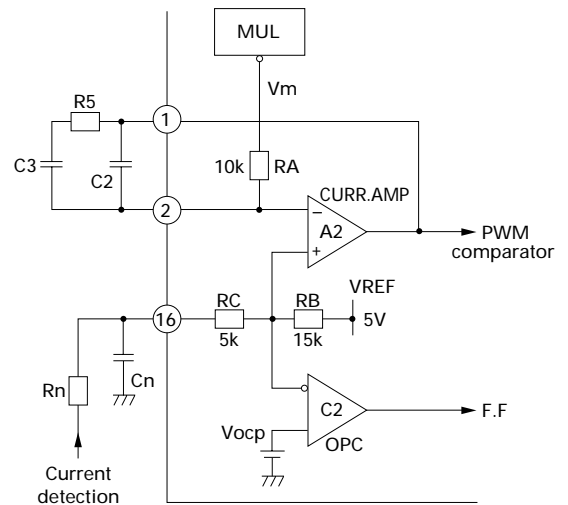
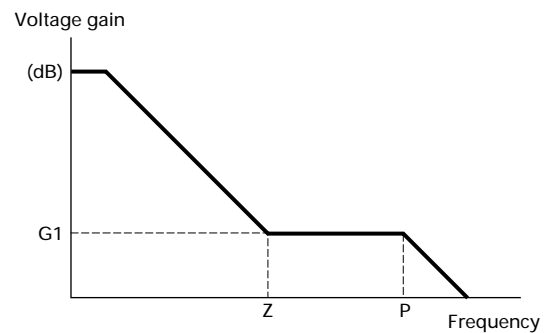

Fig. 3 Current error amplifier and overcurrent limiting circuit
Fig. 4 Voltage gain-frequency
The current error amplifier forms a current loop to change the input circuit current into sinusoidal waves. As Fig. 3 shows, the multiplier output is connected to pin 2 (IIN -) through a resistor (RA) to input the reference current signal. Pin 16 (IDET) is a current input terminal. Design the circuit so that the voltage at pin 16 will be within the range from 0 (GND potential) to -1.0V. Connect a phase correction resistor and capacitors across pin 1 (amplifier output) and pin 2. See Fig. 4 for the expected gain characteristics of the circuit shown in Fig. 3.
As Fig. 3 shows Vm is internally connected to pin 2 (IIN-) of the current error amplifier A2 through a 10kΩ resistor. (See the characteristic curve, page 66 for the input and output characteristics of the multiplier.)